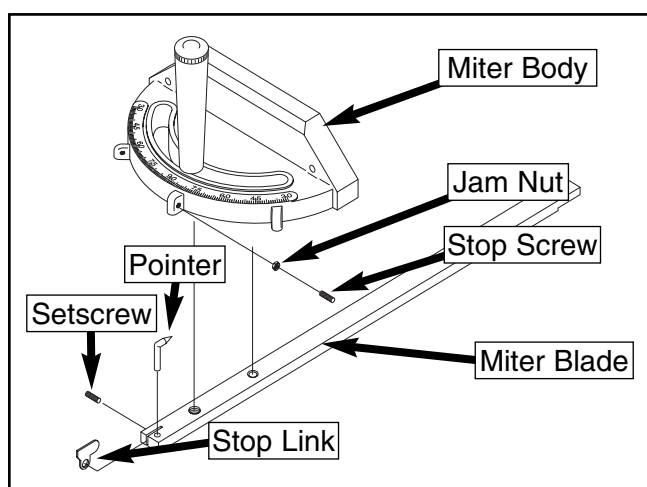

Figure 26. Miter gauge assembly.
3. With the stop link in the up position, loosen the jam nut (**Figure 26**) and adjust the stop screw until it is seated against the stop link.